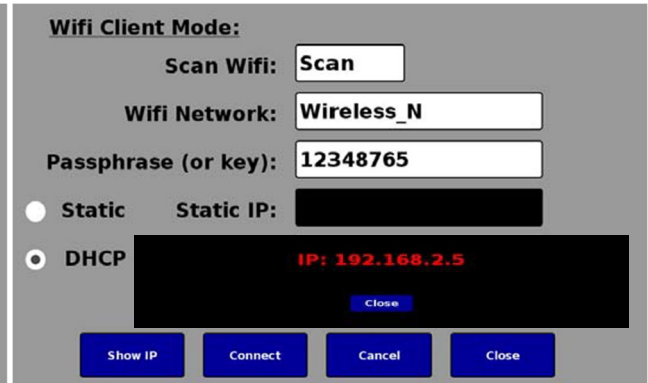

FIGURE 47
- 6) To verify the analyzer is connected to the network, press the “Show IP” button and a window will open either giving the IP address or saying IP not set or NO IP: Try Connect (Figure 47). You can download a free IP address scan software at: www.advanced-ip-scanner.com, this software will scan all the devices on your network and show the analyzer IP address as being on the network.